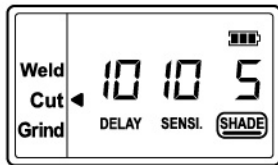
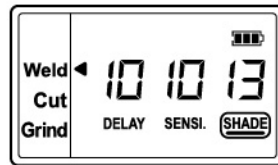

fig.15a
fig.15b
**Cutting Mode** – Shade 5 ~ 8 (See fig.15a) **Weld Mode** – Shade 9 ~ 13 (See fig.15b)